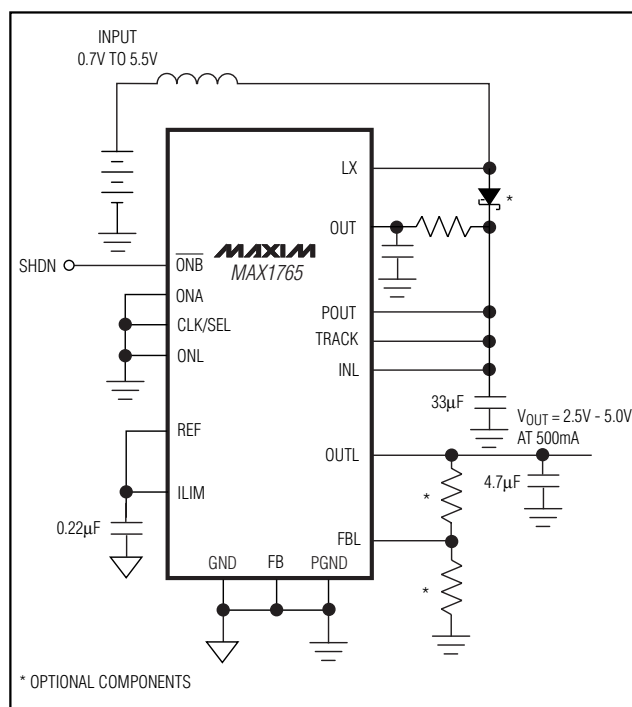

Figure 3. Simple Step-Up/Step-Down Converter
Asserting the TRACK input places the MAX1765 into track mode, where the DC-DC switching regulator's feedback pin (FB) is ignored, and the boost output (POUT) "tracks" to 500mV above the linear regulator output. The primary use of the MAX1765 in TRACK mode is as a simple or very-low-noise step-up/down power supply (see Figures 3 and 4; also see the Typical Operating Characteristics.)